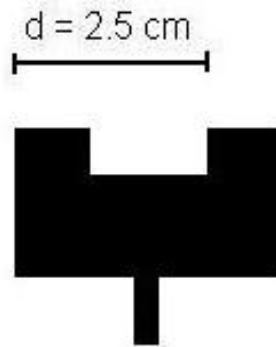

Figure 2: Description of actual distance travelled.
11. If the photogate and timer are set correctly, a speed should be displayed on the timer. Important note: The Smart Timer is designed to calculate velocity for distances of 1cm. The actual distance under observation is 2.5cm. Figure 2 illustrates the actual distance.